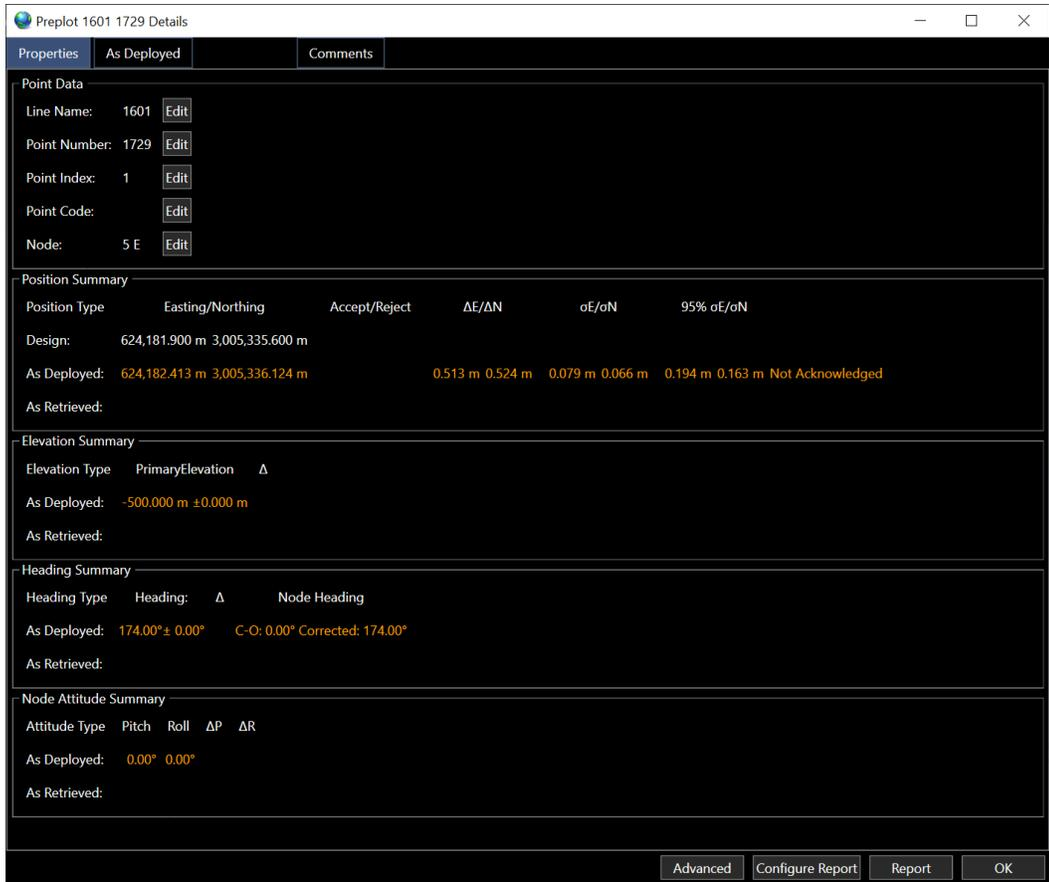

FIGURE 86 PREPLOT DETAILS WINDOW – DEPLOYED NODE INFORMATION
- b. If a node has been deployed at the selected point, the Properties tab, see Figure 86 presents the information and a summary of the **As Deployed** position